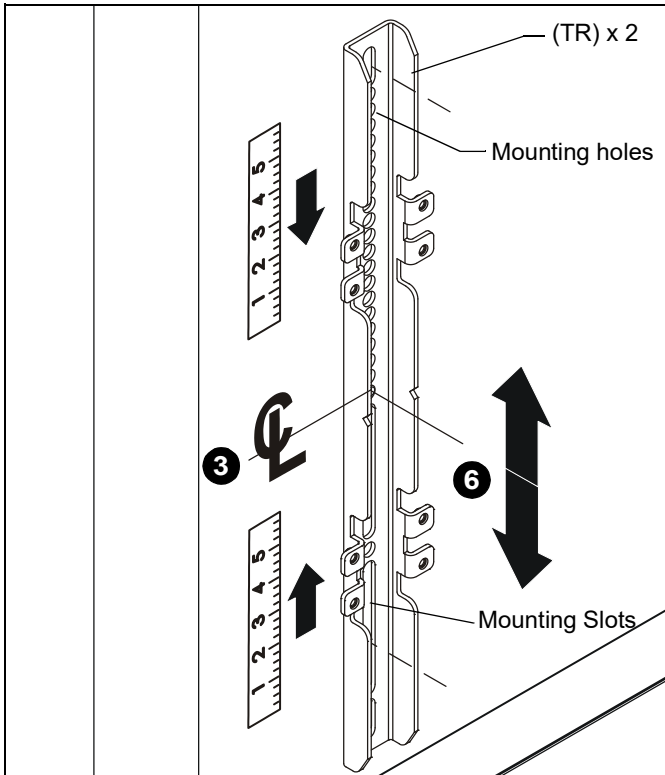

Figure 15
3. Determine and mark the vertical center position between the Left side Upper and Lower mounting holes in display. (See Figure 15)
4. Determine and mark the vertical center position between the Right side Upper and Lower mounting holes in display. (See Figure 15)
5. Orient vertical mounting bracket (WR) so that mounting holes are on top and mounting slots are on bottom. (See Figure 15)